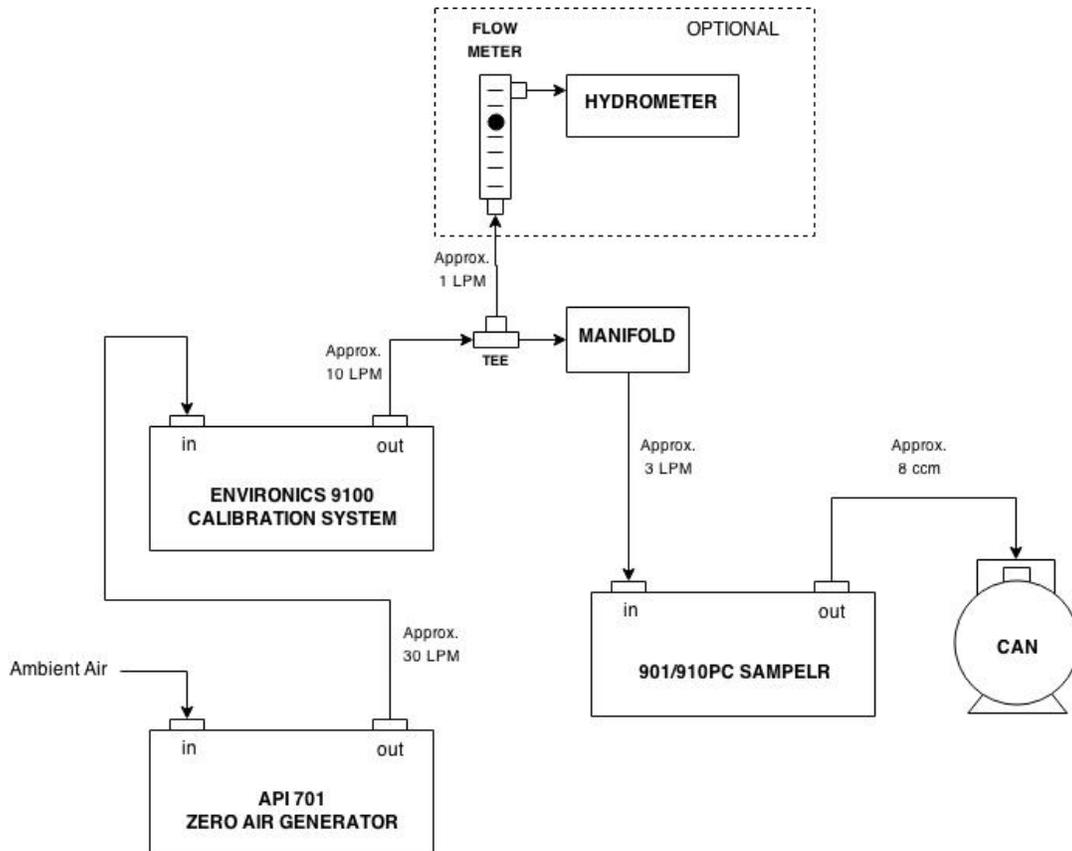

Figure 7.2. Purity Testing Equipment Setup Diagram
1. Obtain a certified "clean" canister from the NLB and connect the canister to the testing equipment as shown in figure 7.2.